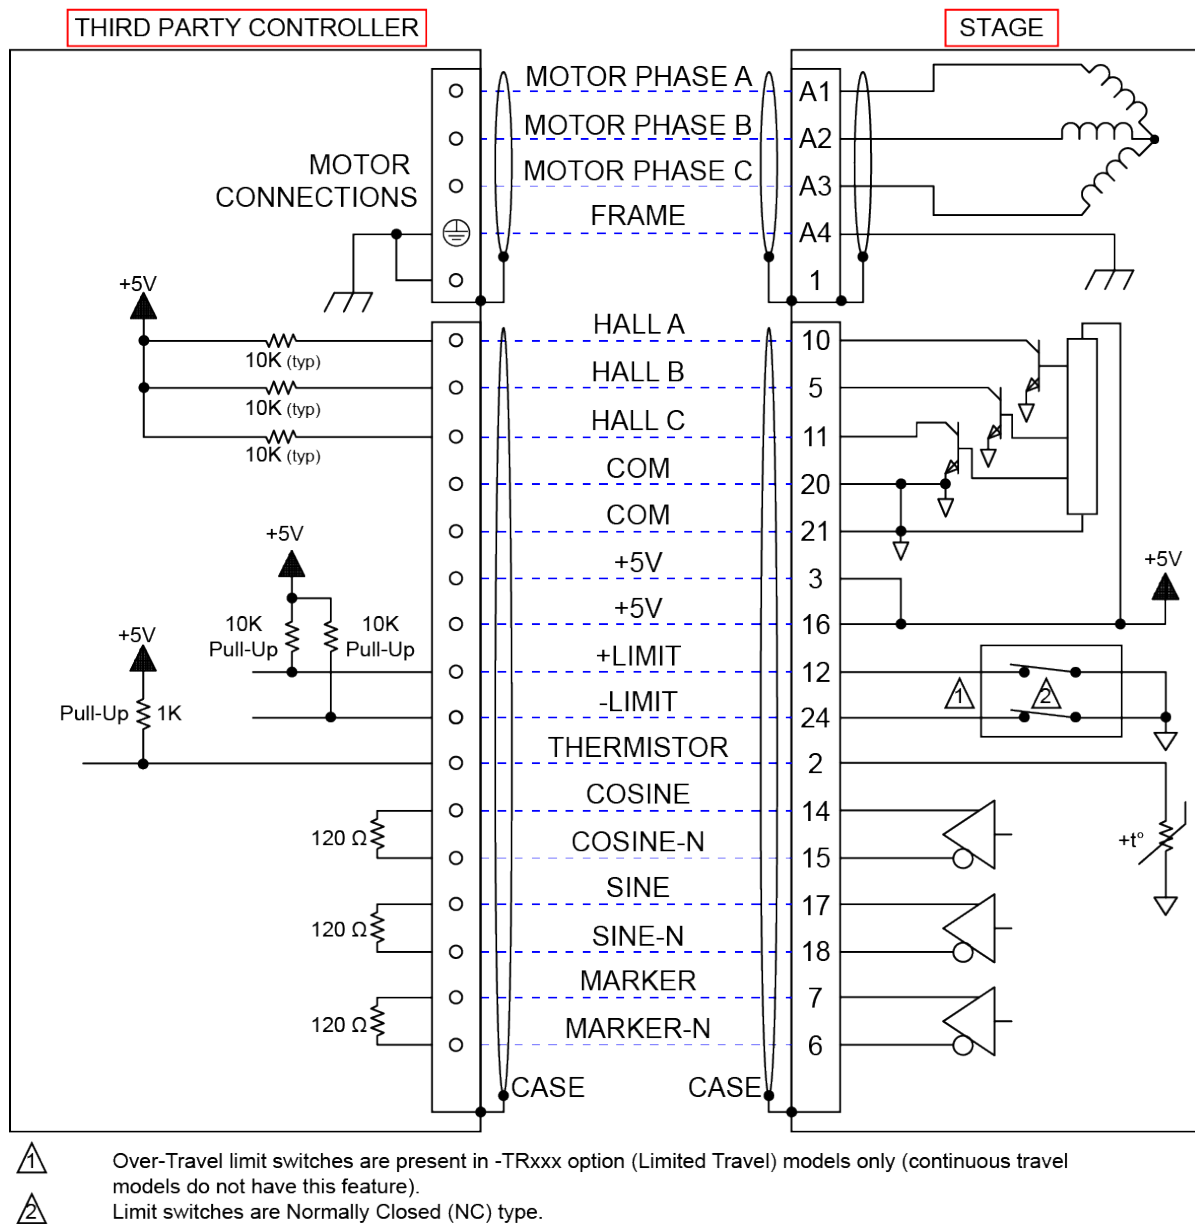
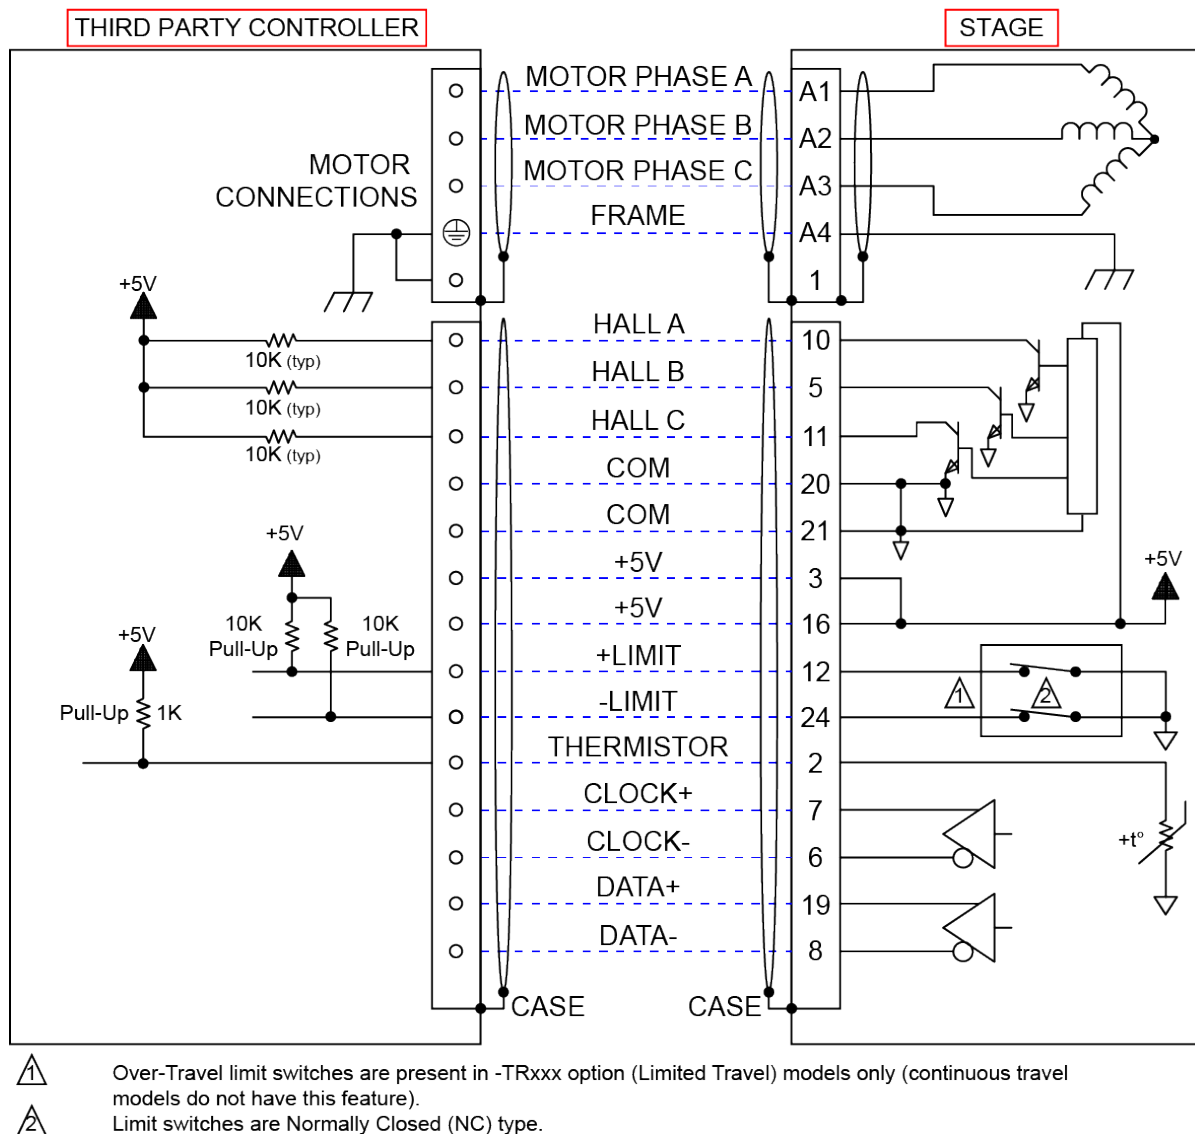

Figure 3-2: Motor and Feedback Wiring (-E1 to -E6 Encoder Options)
Figure 3-3: Motor and Feedback Wiring (-E7 Encoder Option)
- Hall-Effect Sensors, Encoder, and (if present) Limit Switches are connected to one common 5 VDC supply. Refer to Figure 3-2 or Figure 3-3.